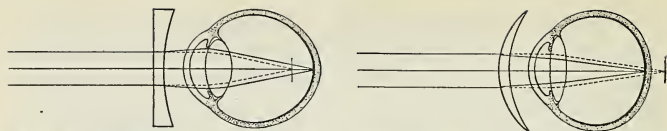

Fig. 254. Correcting nearsighted and farsighted eyes. How are the rays of light changed by each lens?
**Eye defects.** If the distance through the eyeball from lens to retina is a little too great, it is impossible for the eye muscle to relax enough to give the lens the proper shape to bring near objects into clear focus. They focus at a point in front of the retina. Distinct, sharp vision is impossible. People with such eyes are said to be *nearsighted* (Fig. 254). This condition may be remedied by the use of glasses with concave lenses, which slightly diverge the light rays, causing them to focus in the proper position on the retina.
If the eyeball is too short from front to back, the reverse defects exist. The eye muscle cannot squeeze the lens enough to give it the convex shape that would bring the focus to the retina, but instead the point of focusing is back of the retina. Persons with such eyes are said to be *farsighted* (Fig. 254). To remedy this condition convex glasses are used so as to increase the curvature effect of the lens and so focus the rays nearer the lens.